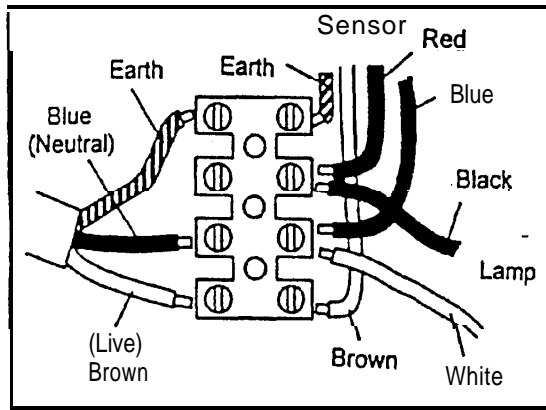

Fig. 4
7. Put wire to terminal block. Please refer to fig. 4 & 5 for correct position. Screw down the screws on the terminal block.